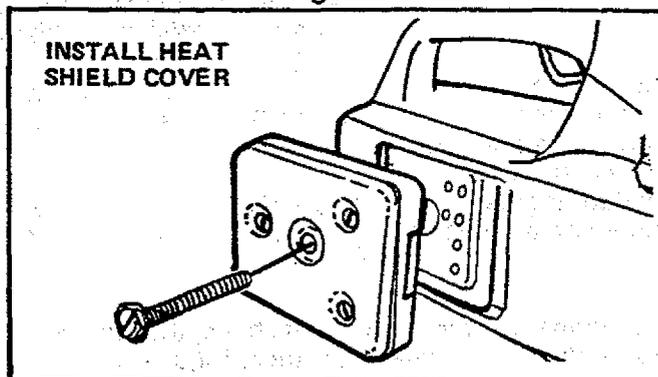

Figure 11
3. Install the temperature limiting muffler body. Figure 11.